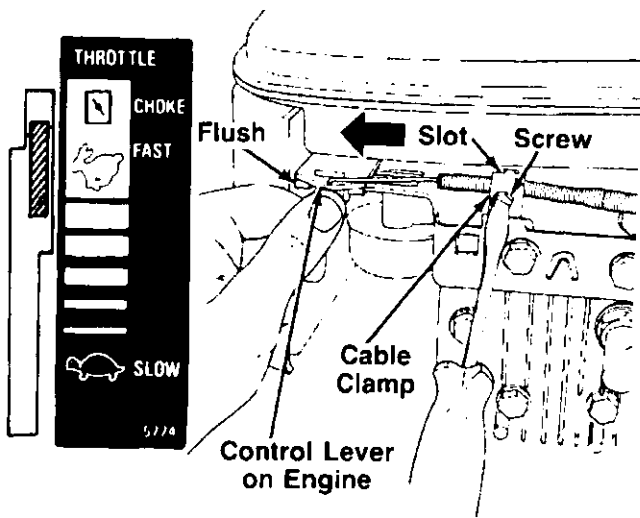

FIGURE 5.
1. Push the throttle control lever on the handle all the way forward to CHOKE, then back it off two "clicks" (approximately 5/16"). See figure 5.
2. The throttle control cable is attached to the upper handle. Route the throttle control cable to the outside of the height adjustment lever and catcher panel. Hook the "Z" end of the throttle control cable into the hole in the control lever on the engine. See figure 5.
3. Using a 5/16" wrench or nutdriver, remove the screw on the cable clamp shown in figure 5. Slip the control cable under the clamp. Replace the screw (cable should be above the screw), but do not tighten screw (cable must still move freely beneath the clamp). Make certain the tab on the cable clamp is seated into the slot on the engine.
4. Push the control lever on the engine as far toward the **outside** of the engine as it will go. The edge of the control lever should be flush with the bracket on the engine. See figure 5. Hold the control lever in this position as you tighten the screw on the cable clamp to secure the throttle cable.